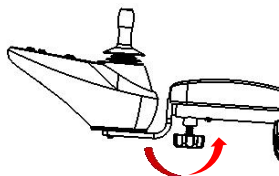

Figure 9
► **Controller Installation:** Insert the controller into the armrest tube and lock the plum knob counterclockwise. (See Fig 9)